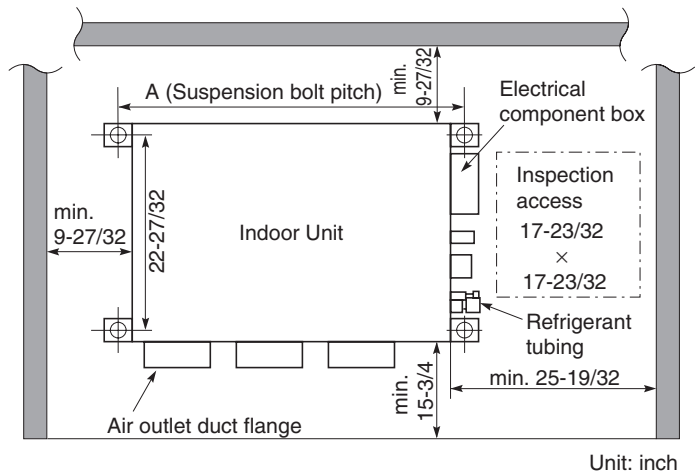

Fig. 1-67
- The minimum space for installation and service is shown in Fig. 1-67 and Table 1-7.